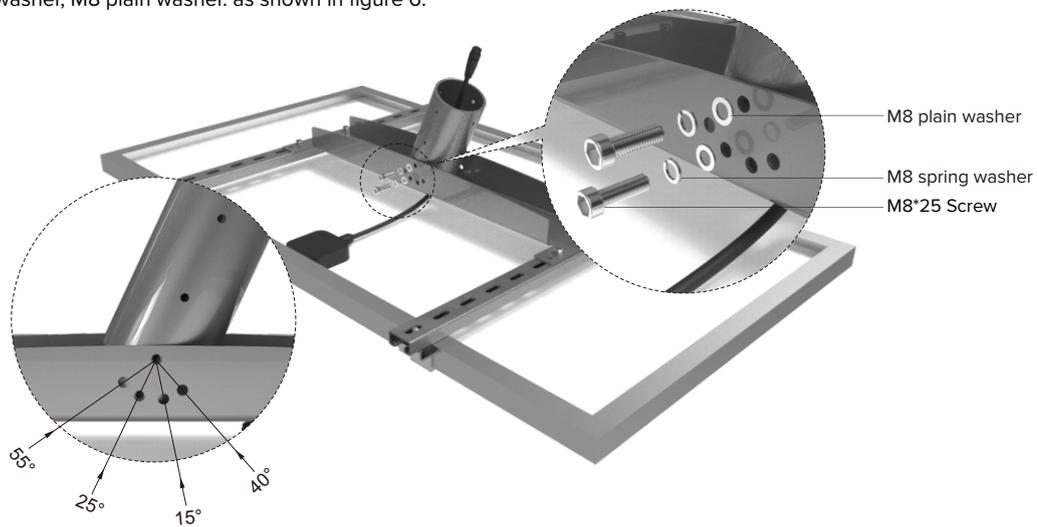

Figure 6
- 4 Choose a proper angle to fasten the bushings, the accessories are M8*25 screw, M8 spring washer, M8 plain washer. as shown in figure 6.